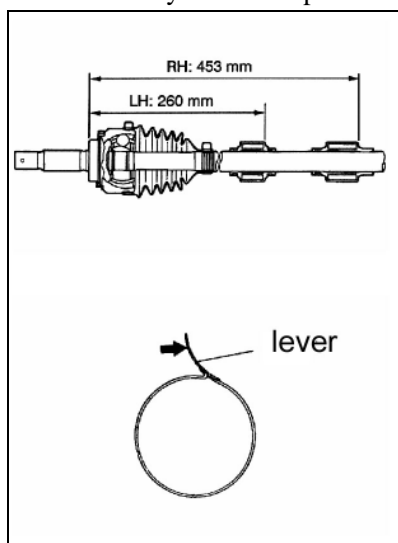

Fig.12-29
(1) Dynamic damper/damper band/T.J. boot installation
- a. Install the dynamic damper to the place as shown Fig.12-29 using damper band and fix it.